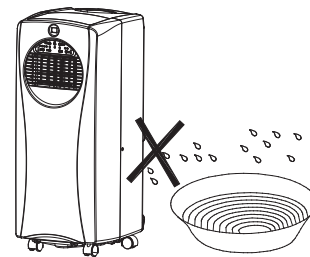

FIG.3
- Do not use in humid or wet environments (fig 3)